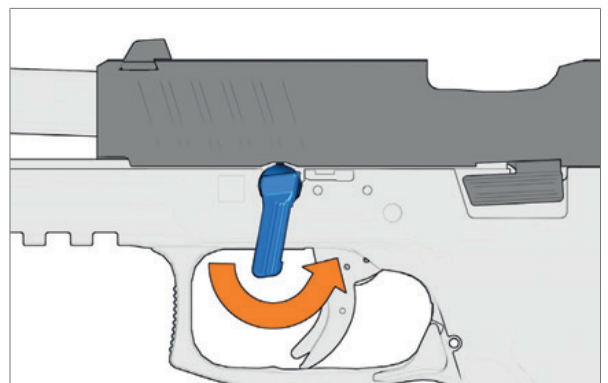

Fig. 58: Turn disassembly lever anti-clockwise
7. Turn disassembly lever anticlockwise as far as it will go (*Fig. 58*).